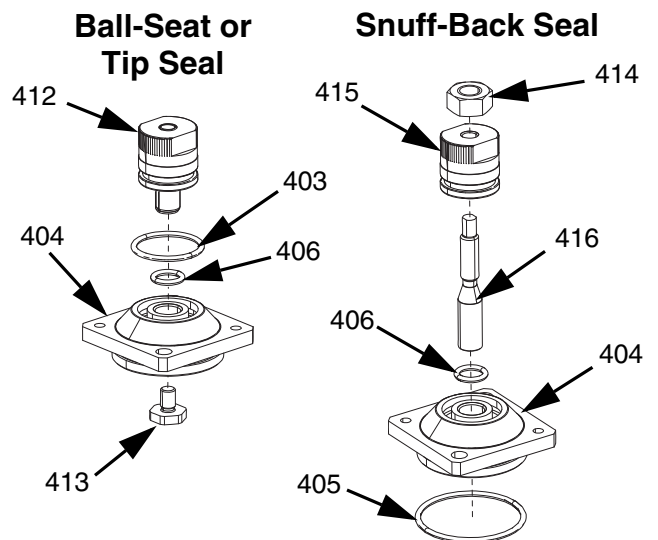
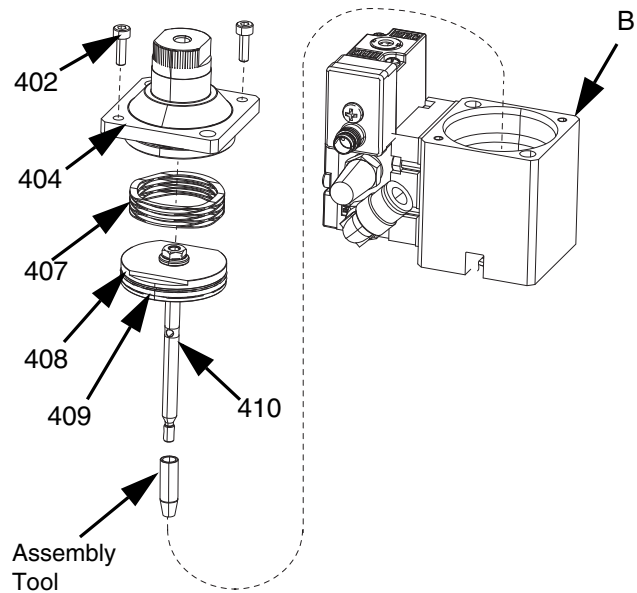

FIG. 19
FIG. 20
1. To assemble the air cylinder cap (404) on valves with ball-seat or tip seal assemblies:
- a. Install the o-ring (403) on the knob assembly (412). Place the o-ring (406) in the air cylinder cap (404). See FIG. 19.
- b. Grease the o-ring (403) on the knob assembly (412) and screw it into the air cylinder cap (404). See FIG. 19.
- c. Apply the supplied blue anaerobic adhesive to the adjuster stop threads (413) and screw it into the knob assembly (412). Torque to 11-13 in-lbs (1.25-1.5 N•m). See FIG. 19.
2. To assemble the air cylinder cap (404) on valves with snuff-back tip assemblies:
- a. Install the o-ring (406) into the air cylinder cap (404). Insert the rod adapter (416) into the air cylinder cap (404). See FIG. 19.
- b. Install the o-ring (405) onto the air cylinder cap (404). See FIG. 19.
- c. Thread the knob assembly (415) and the locknut (414) onto the rod adapter (416). See FIG. 19.
3. To assemble the Air Section (B) on valves with ball-seat or tip seal assemblies:
- a. Replace the piston o-ring (408) if it is scratched, cut, or worn. See FIG. 20.
- b. Apply the assembly tool to the tip of the piston rod (410), then insert it into the Air Section (B). See FIG. 20.
- d. Place the spring (407) on the top of the piston (409). See FIG. 20.
- e. Replace the air cylinder cap (404) and insert the screws (402). Press down on the air cylinder